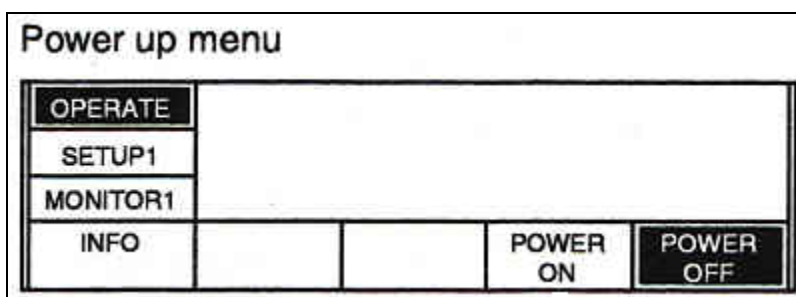

Figure 7: Starting menu when the Beamlock controller (i.e. Nd-YAG Controller) is turned on.
8. **Press “POWER ON” (hold until beeps) in menu of Nd-YAG controller.** “SELF-TEST” will begin and laser will run in “Q-SWITCH OFF” mode. (See Floor Plan ⑦ on pg. 1 and Figure 7 and 8)